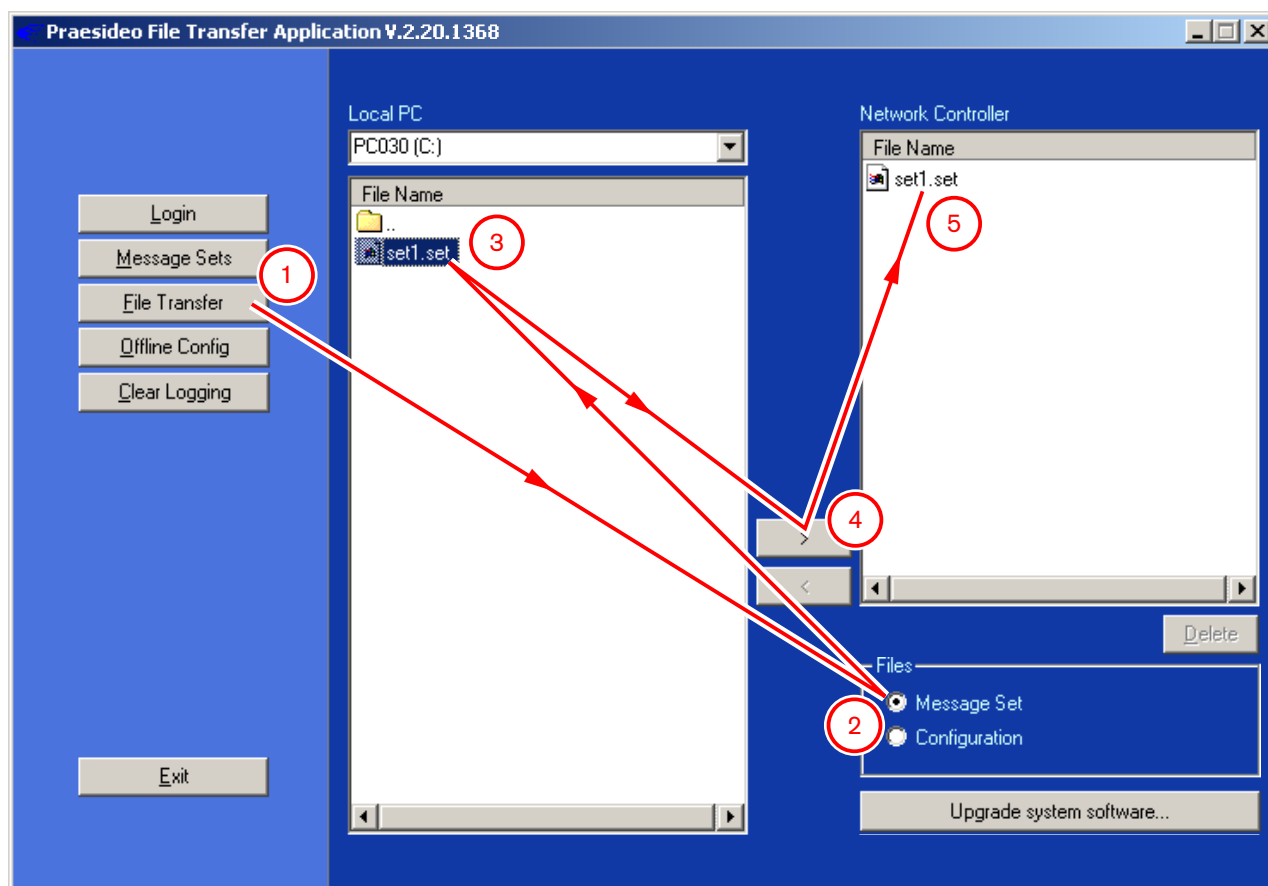

figure 35.10: Transferring a message set
- 1 In the *File Transfer* application, click the *File Transfer* button. A screen similar to the one in figure 35.10 appears.